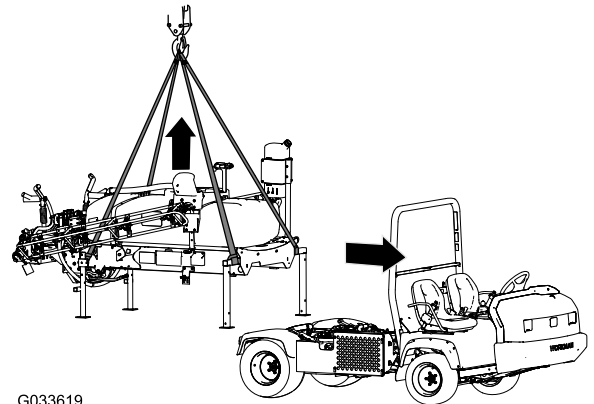

Figure 102
1. Lower the booms to approximately 45° and then pivot them forward (Figure 102).
5. Attach the lifting equipment to the horizontal tubes of the forward jack stands and the vertical post of the rear jack stands (Figure 102).
7. Lift the tank skid from the machine high enough to clear the skid from the machine (Figure 102).